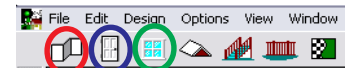
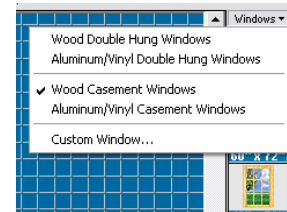

Figure 23
Figure 24
- To add a window select the window tool which is circled in green in **figure 23**. A window menu will appear on the **upper right side** of the screen. **Click** on the toggle arrow by the word **window** as shown in **figure 24**.
- Click** on the roof menu on the top-left side of the screen. It is shown next the window menu in **figure 23**.